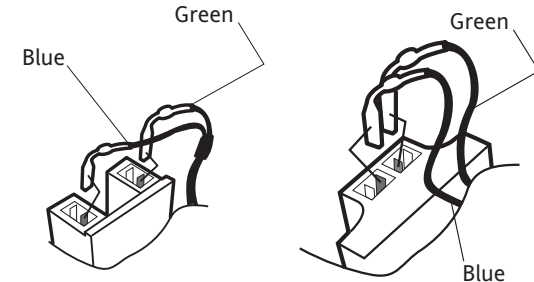

Figure 3.3b Thyristor terminal connection detail
**Note:** the snubber board is connected to the thyristor by two wires (blue and green) using push-on connectors. There are four terminals on the thyristor. The green and blue wires must be connected to the correct thyristor terminal, or the thyristor will not fire correctly and power will not be controlled. One of two types of thyristor may be supplied as a spare, which might or might not be of the same type as the existing thyristor. Figure 3.3b, below shows connection details for both types.